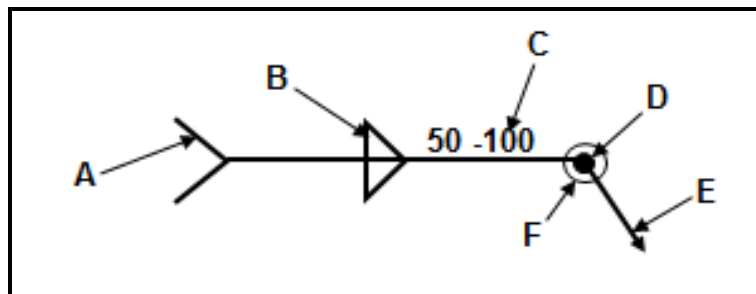

FIGURE 5.5
- 5.5 FIGURE 5.5 below shows a welding symbol. Label parts **A–F** on the welding symbol.